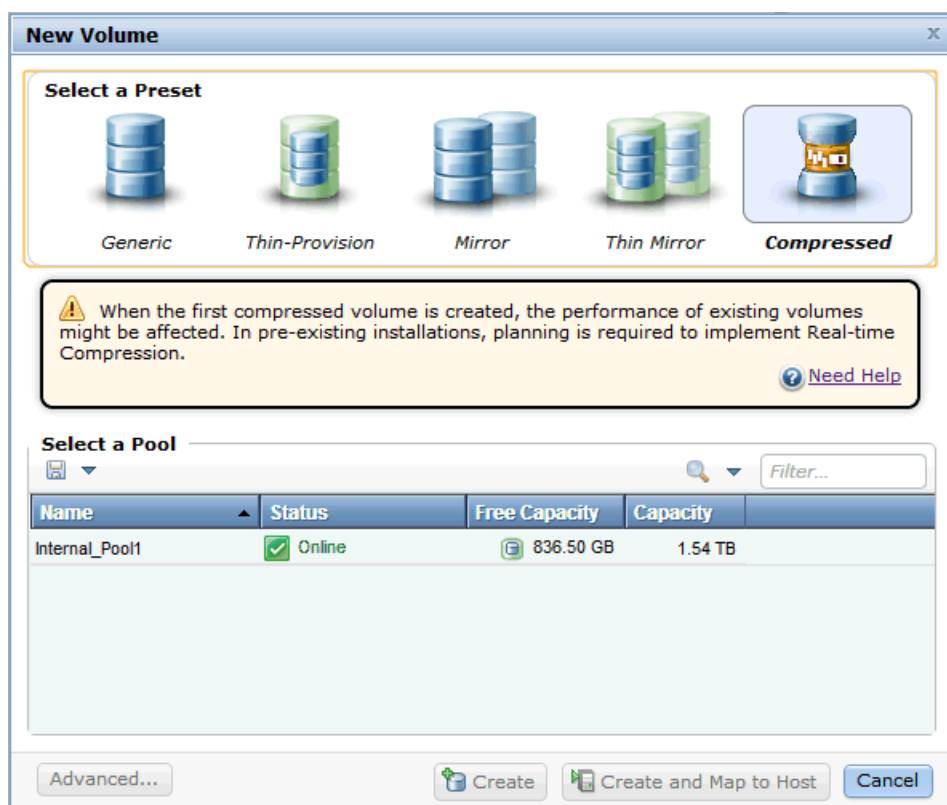

Figure 6-19 Compressed Volume - select a pool
1. Click **New Volume** and select **Compressed** as shown in Figure 6-19.